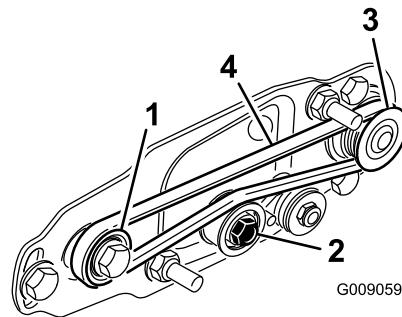

Figure 41
- Loop the belt around the **driven** pulley and then over the top of the idler pulley (Figure 41).
- Start the belt on the **drive** pulley (Figure 41).